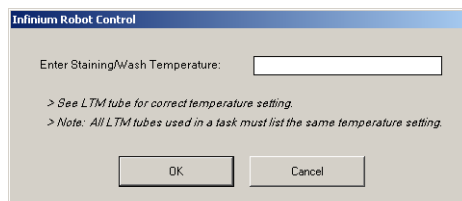

Figure 140 Entering XStain Temperature
- e. At the prompt (Figure 140), enter the staining temperature. The correct temperature is listed on the LTM reagent label. If no temperature is listed, enter 37°C.